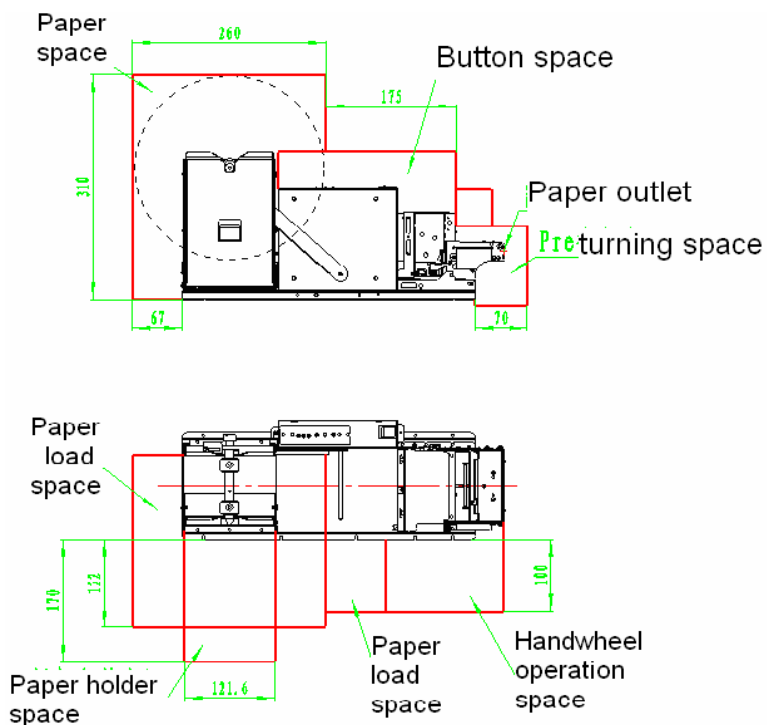
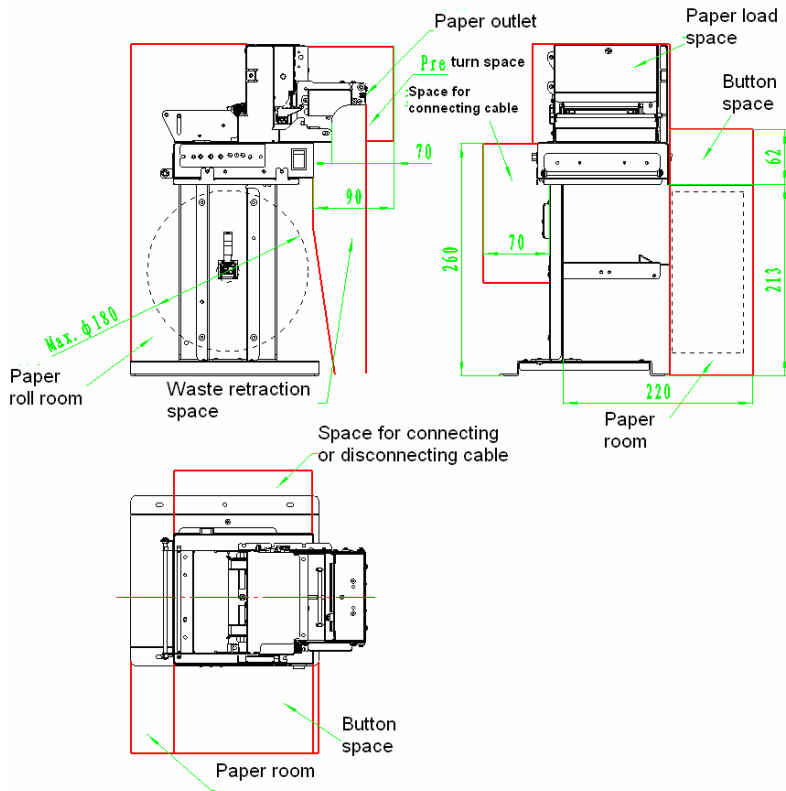

Fig. 4.7-1 BK-T080 space with standard paper holder
Fig. 4.7-2 Structure space compatible with BK-W080 vertical holder
spaces (see Fig. 4.7-1 and Fig.4.7-2 BK-T080 structure space)
2. Shown as “2” item in the Fig. above: After Presenter finishes the printing, the paper which is not needed shall retract shown as “2” item in the Fig. above. Therefore enough space should be reserved and waste collection device is designed to keep the retracted paper. ( The size is shown in Fig.4.7-2);